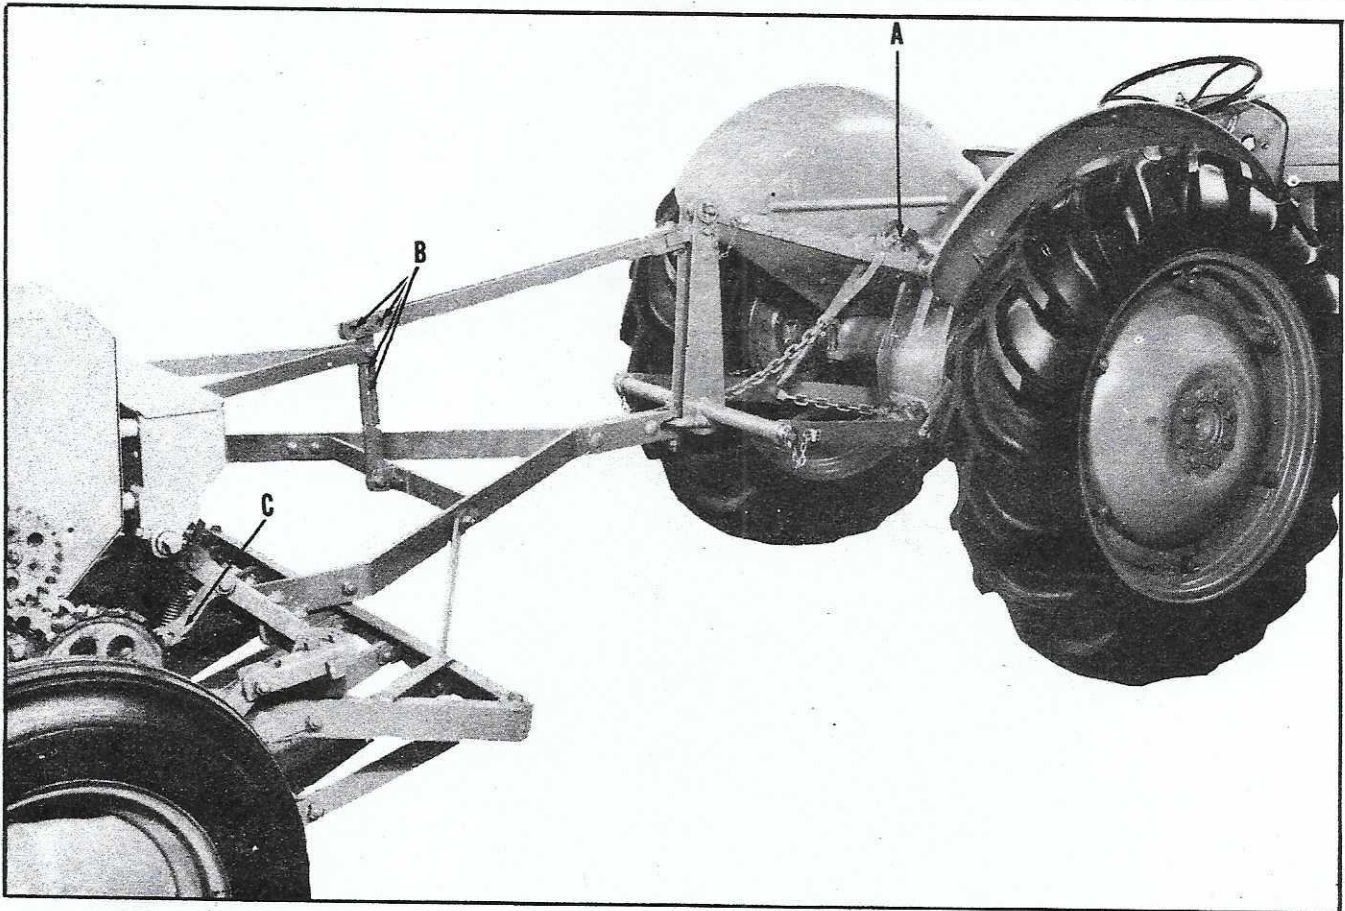

Fig. 6
Adjustment of the depth control linkage, A, on the top link rack, Fig. 6, sets the maximum lowering of the draw bar thereby determining the seeding depth. Depth may be changed, while in motion, by raising draw bar slightly and shifting rack to desired position.
Further lift and penetration adjustment may be obtained through the holes, B, Fig. 6, which connect the rigid top link to the vertical member.
Readjust the clutch throw out link, C, Fig. 6, whenever the above adjustment is made.
The clutch should be adjusted to throwout when drill is in the raised position. Adjustment is made by increasing or decreasing length of clutch arm, C, in Fig. 6.
15. Mount tractor hitch to grain drill hitch assembly. Fig. 6.